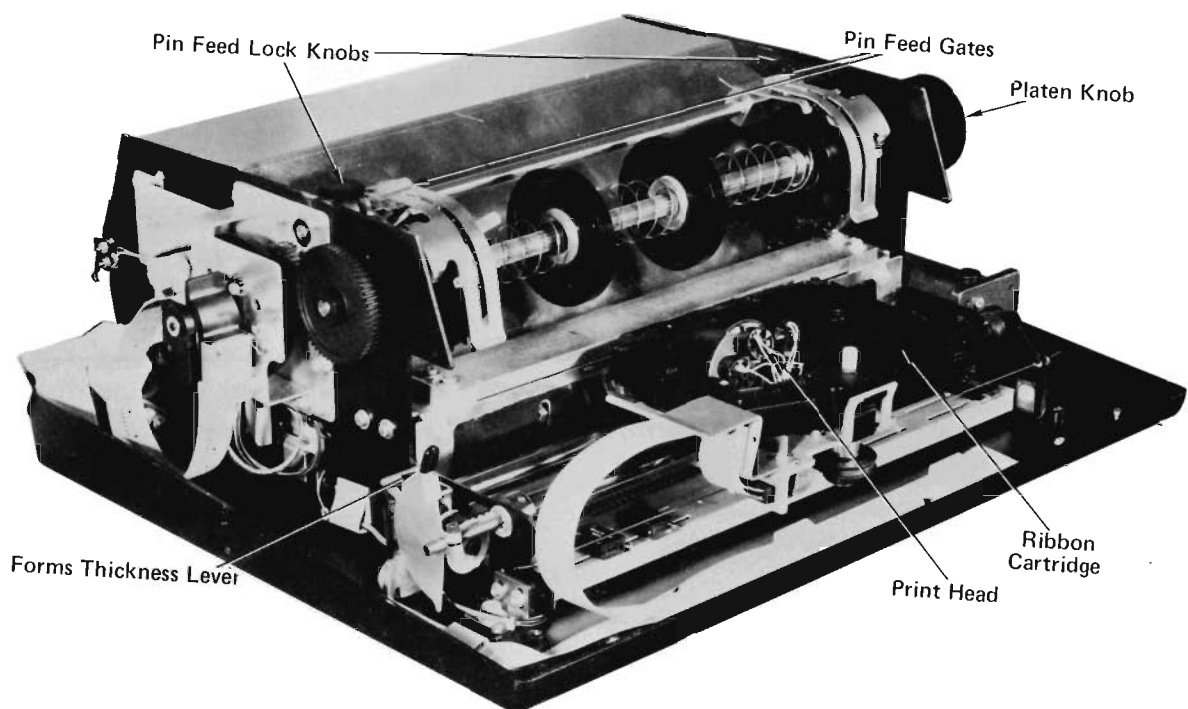

Figure 1-2. Model 2231W-3 Line Printer, Definition of Terms
2. Push continuous-form pin-feed paper into the slot at the bottom front of the printer until it comes out between the pin-feed mechanisms (see Figure 1-2 and Figure 1-3). (Note: An optional slot for paper insertions is located at the bottom of the printer.)
2. Raise the cover of the printer and find the Print Head and the Forms Thickness Lever. (see Figure 1-2).